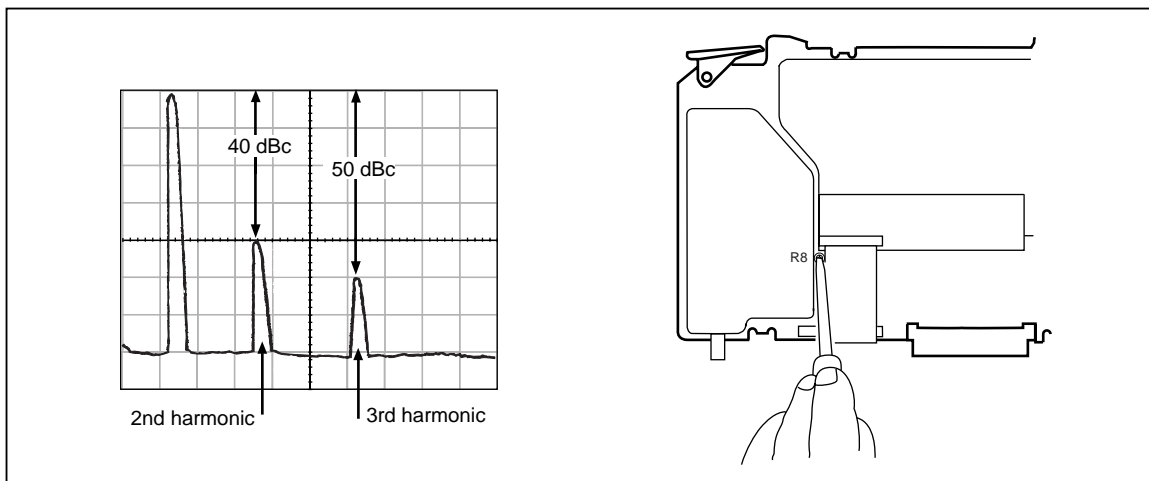

Figure 6-16. Adjusting the Leveled Sine Wave Harmonics
2. Use your Spectrum Analyzer's Peak Search function to find the desired reference signal. The Analyzer should show the fundamental, and second and third harmonics. The harmonics need to be adjusted so that the second harmonic is at 40 dBc and third harmonic should typically be at 50 dBc as shown in Figure 6-16.
3. To adjust the harmonics, adjust R8, as shown in Figure 6-16 until the peaks of the second and third harmonic are at the correct dB level. You may find that you can place the second harmonic at 40 dBc but the third harmonic is not at 50 dBc. If this is the case, continue adjusting R8. The second harmonic will fluctuate, but there is a point at which both harmonics will be at the correct decibel level.